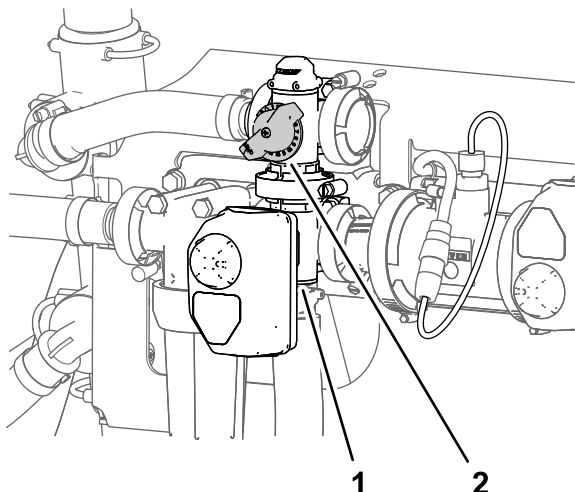

Figure 206
- Adjust the agitation-bypass valve (Figure 206) until the gauge indicates 689 kPa (100 psi) sprayer system pressure.